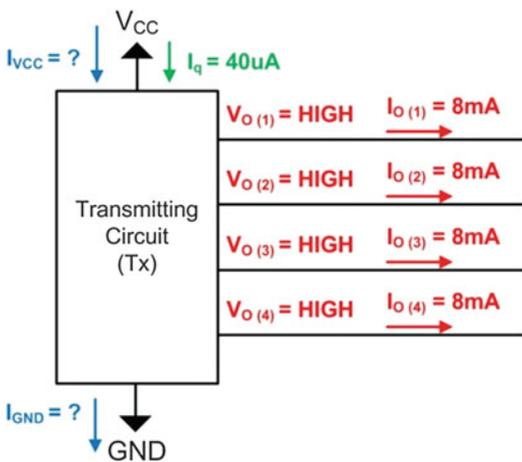

Fig. 3.36
- 3.2.7 For the driver configuration in Fig. 3.36, give the current flowing through the V_{CC} pin.
- 3.2.8 For the driver configuration in Fig. 3.36, give the current flowing through the GND pin.